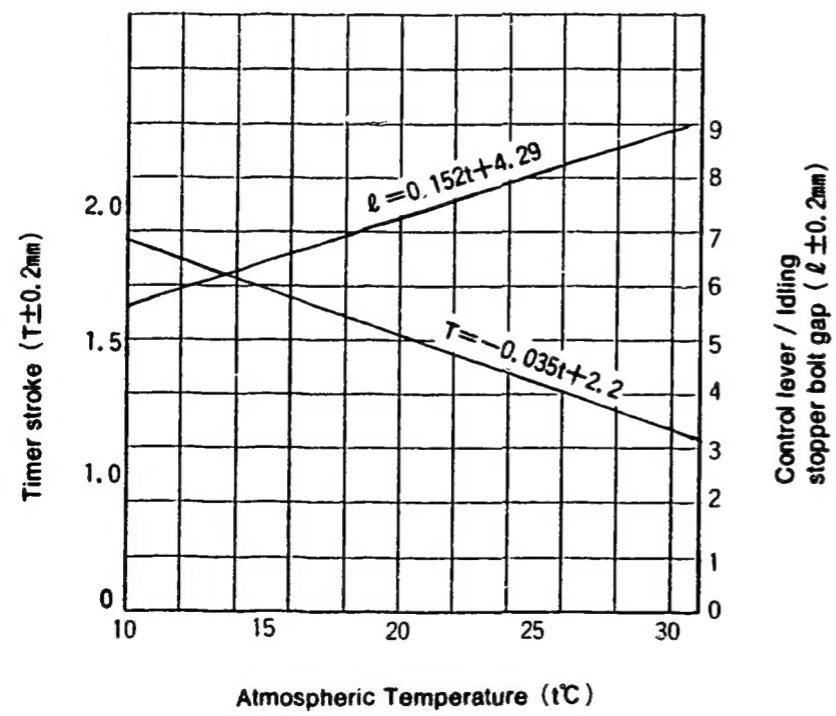

Fig. 2
- ① Using the graph (Fig 2), determine the Timer Stroke according to the atmospheric temperature at the time of adjustment.
- ② Adjust using the Timer Stroke adjusting bolt so that the Timer Stroke corresponds to the value determined in note ① above.
① Insert a block gauge (thickness gauge) of thickness 7.6 ± 1 in the gap between the control lever and the idling stopper bolt. (control lever angle : $12^\circ \pm 2^\circ$)
② With the control lever positioned as described in ① above, adjust the plate position so that the control lever plate and the dash pot push rod are in contact.
- ① Insert a block gauge of 5.3 ± 0.05 mm thickness in the gap between the control lever and the idling stopper bolt.
- ② From Fig 2 determine the dimension of the gap between the idling lever pin and the control lever according to the atmospheric temperature at the time of adjustment.
- ③ Adjust using the fast idle adjusting screw so that the gap corresponds to the value determined in note 2) ② above.